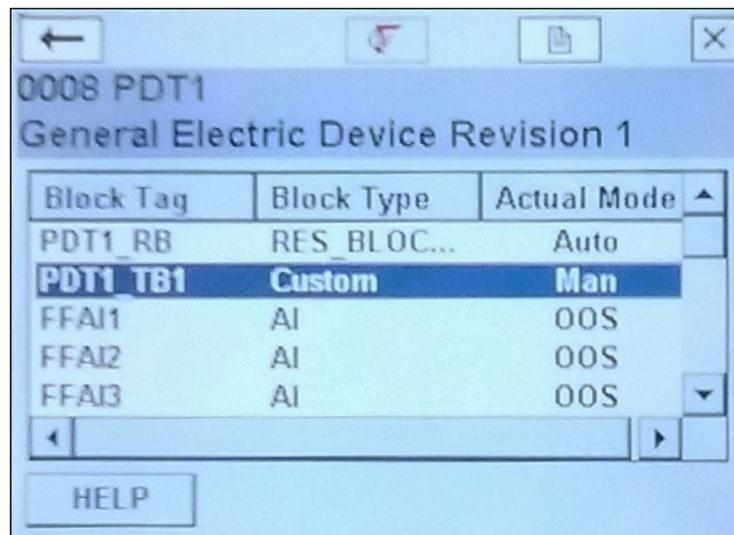

Figure 100 - Block Screen
3. Press the right button  or double-tap the item. The *Block Tag* screen appears (Figure 100).